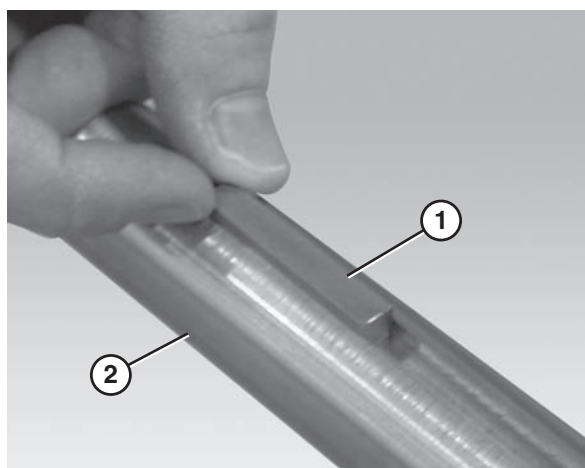

Figure 12
1. Insert the drive spindle key (Figure 12, item 1) into the drive spindle keyway (Figure 12, item 2).